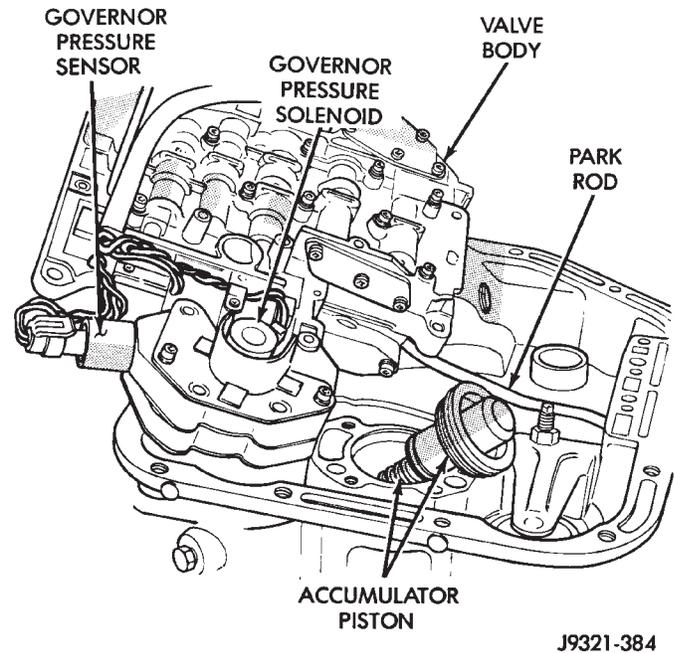

Fig. 151 Accumulator Piston And Springs
(30) Install accumulator piston and inner and outer springs (Fig. 151).
(31) Verify that valve body solenoid harness is secured in 3-4 accumulator housing cover plate.
(32) Install valve body as follows: